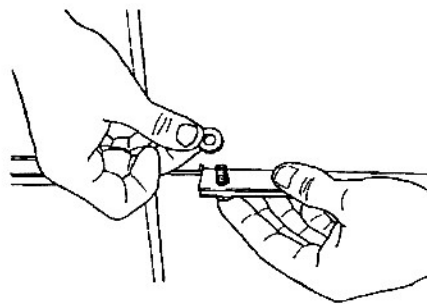

Fig. 7
11. Hold the bolt in place with a finger, and put another flat washer (28) on the bolt, as seen in Fig. 7.